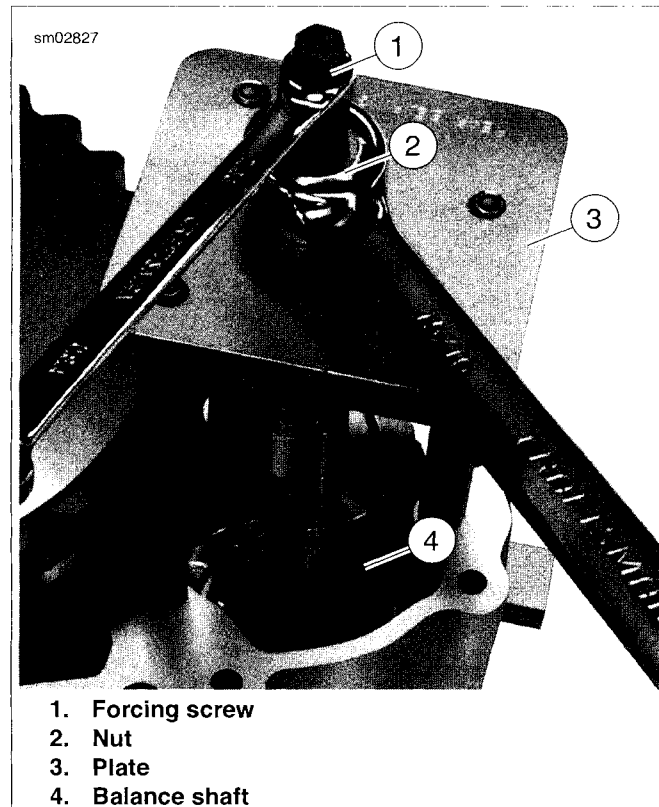

Figure 3-162. Removing Balance Shaft
3. See Figure 3-162. While holding forcing screw (1) from turning, turn nut (2) to remove balance shaft (4) and bearing from crankcase.